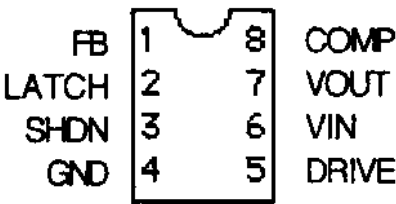

FIGURE 5
- 5.7 Terminal Connections: The terminal connections shall be as specified in **Figure 5**.